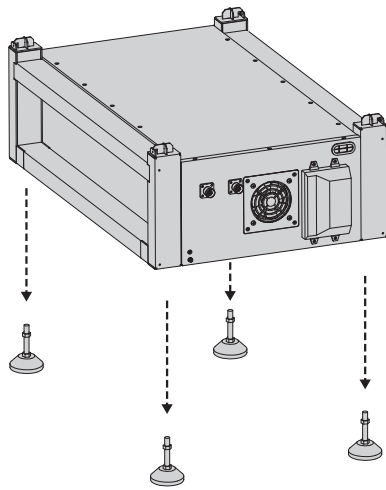
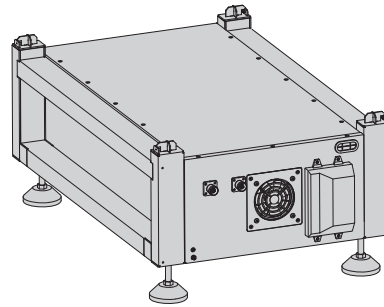

Figure 1
Figure 2
Step 1: As shown in the figure 1 & figure 2, install and fix the 4 supporting foot cups to the bottom of the battery pack.